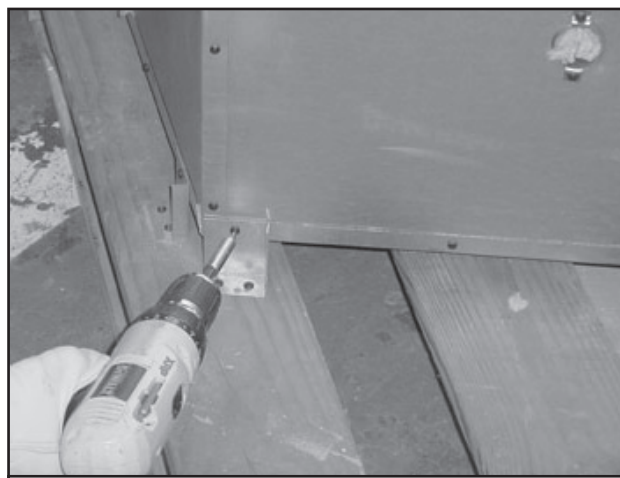

Figure 3.12 Removing Shipping Brackets
- Remove shipping brackets as shown in Figure 3.12. Replace the screws removed from the fireplace.
- Remove fireplace from pallet. The fireplace is attached to pallet with two brackets on each side and rear of outer shell. See Figure 3.12.
Figure 3.12 shows a typical framing (using 2 x 4 lumber) of the fireplace, assuming combustible materials are used. All required clearances to combustibles around the fireplace must be adhered to. See Figure 3.3. Any framing across the top of the fireplace must be above the level of the top standoffs.